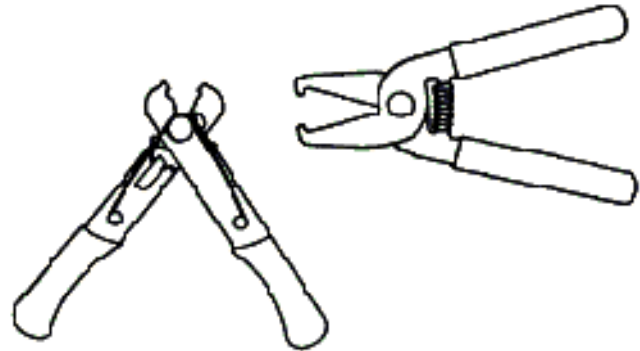

Figure 19. Shear Type Cutter
28. **Shear Type Cutters.** A shear type cutter is one where the blades pass each other. This type cutter will preserve the symmetry of the wire (Figure 19)